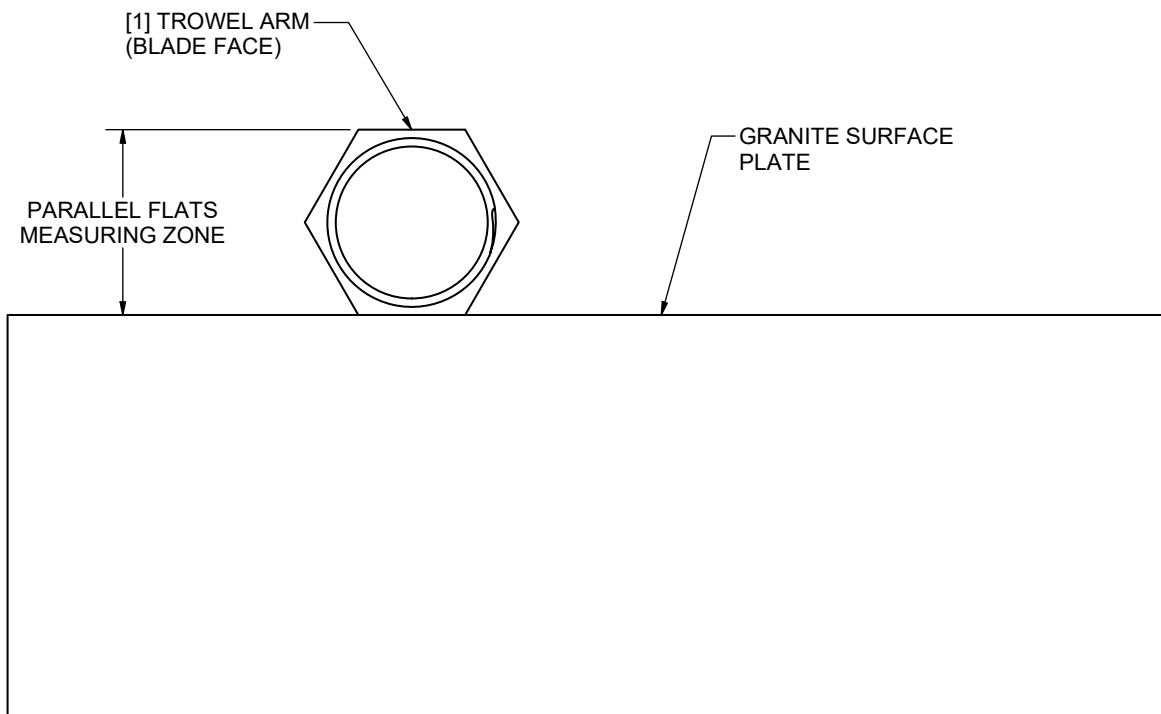

Figure 1.4-3
Step 3: Make visual inspection for any signs of linear defects that might affect the flatness feature of the trowel arm blade face. Check for any abnormal bowing, bent, or crooked defects. Refer to Figure 1.4-3.